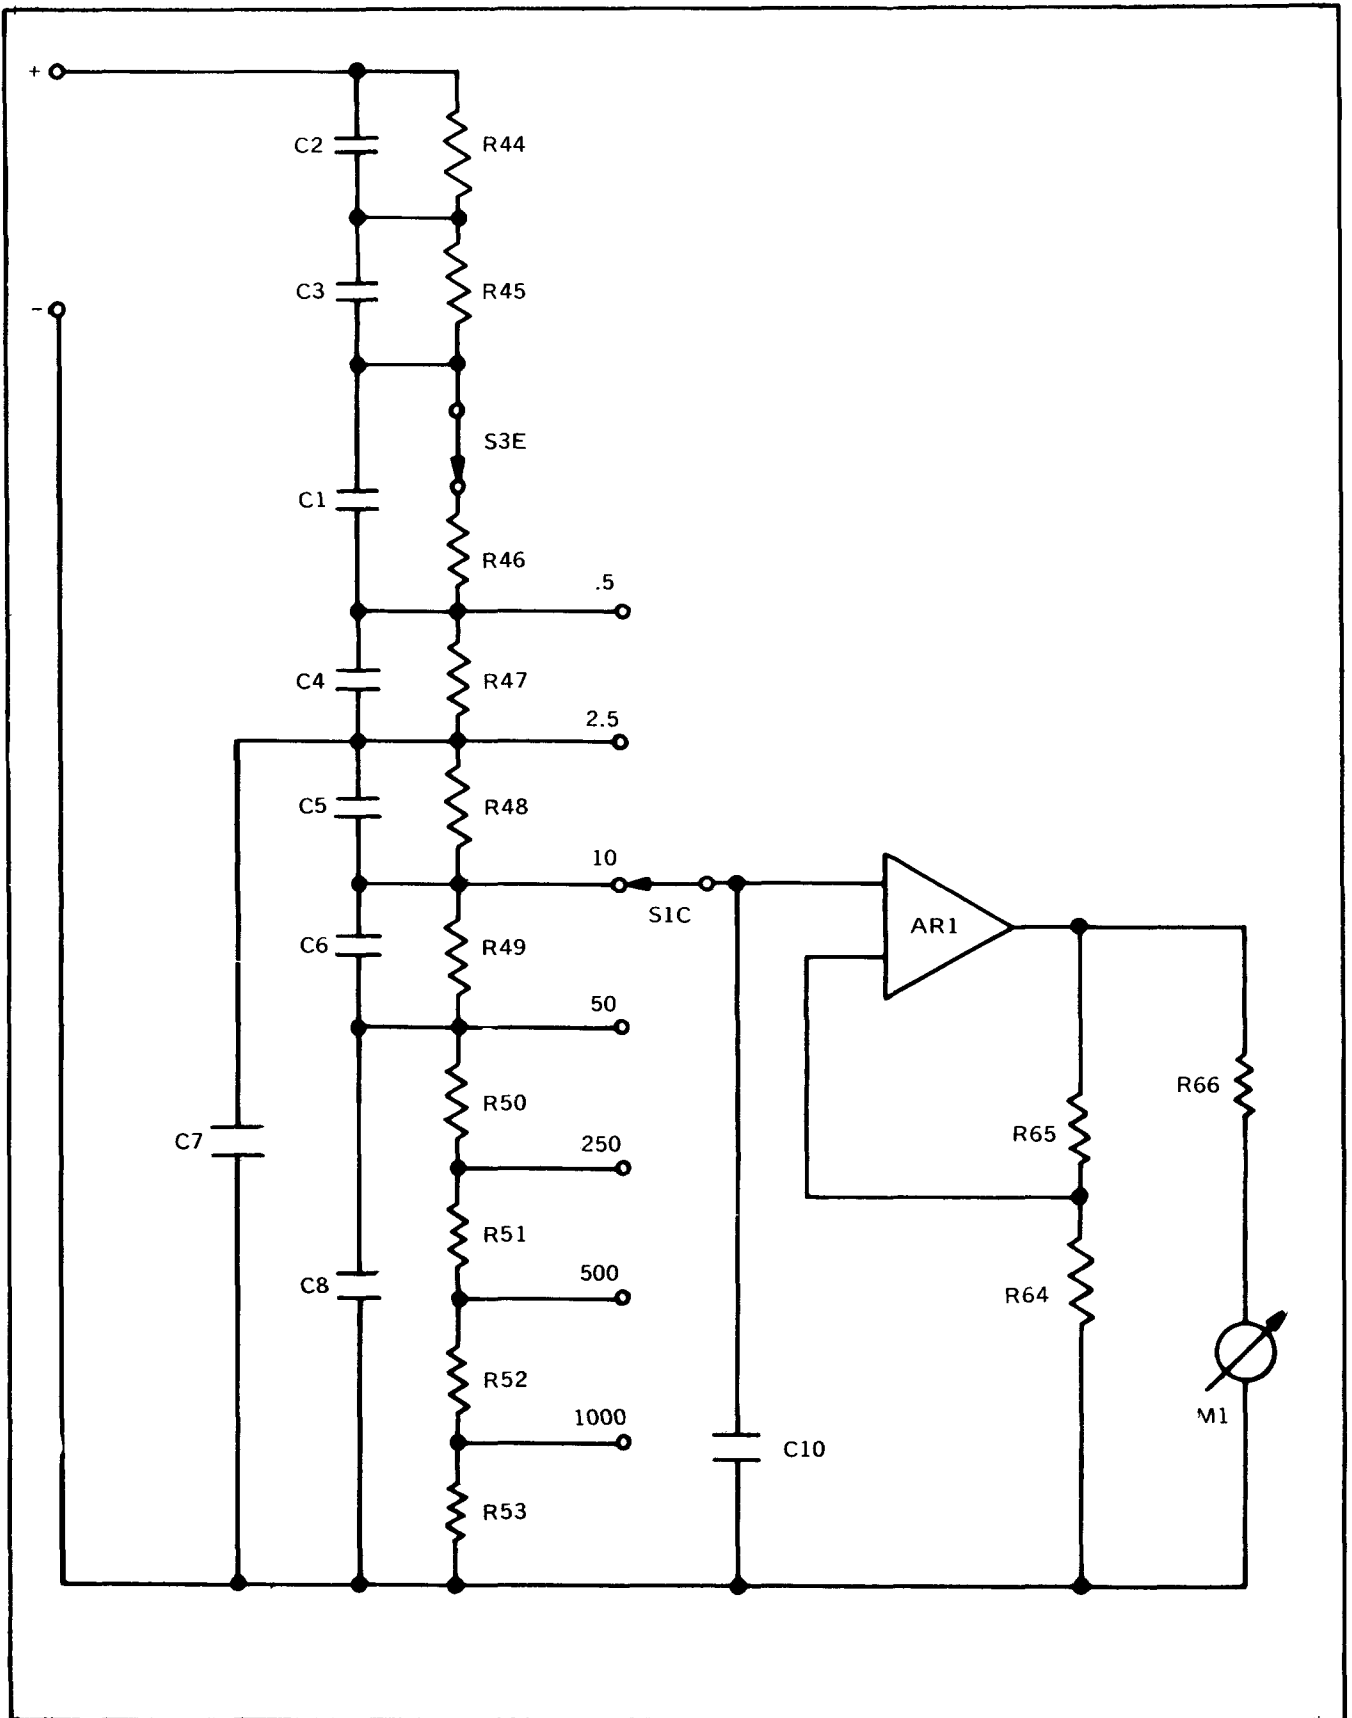

Figure 4-3. Simplified Circuit, DC Volts - 10 Megohms (Part Number 910 Only)
4-8. DC VOLTAGE - 10 MEGOHMS. The simplified circuit for part number 910 (911) is shown in figure 4-3. Resistors R44 through R53 and capacitors C2 through C8 comprise the 10 Megohm input voltage divider. The divider is tapped at values corresponding to the 10 Megohm input impedance